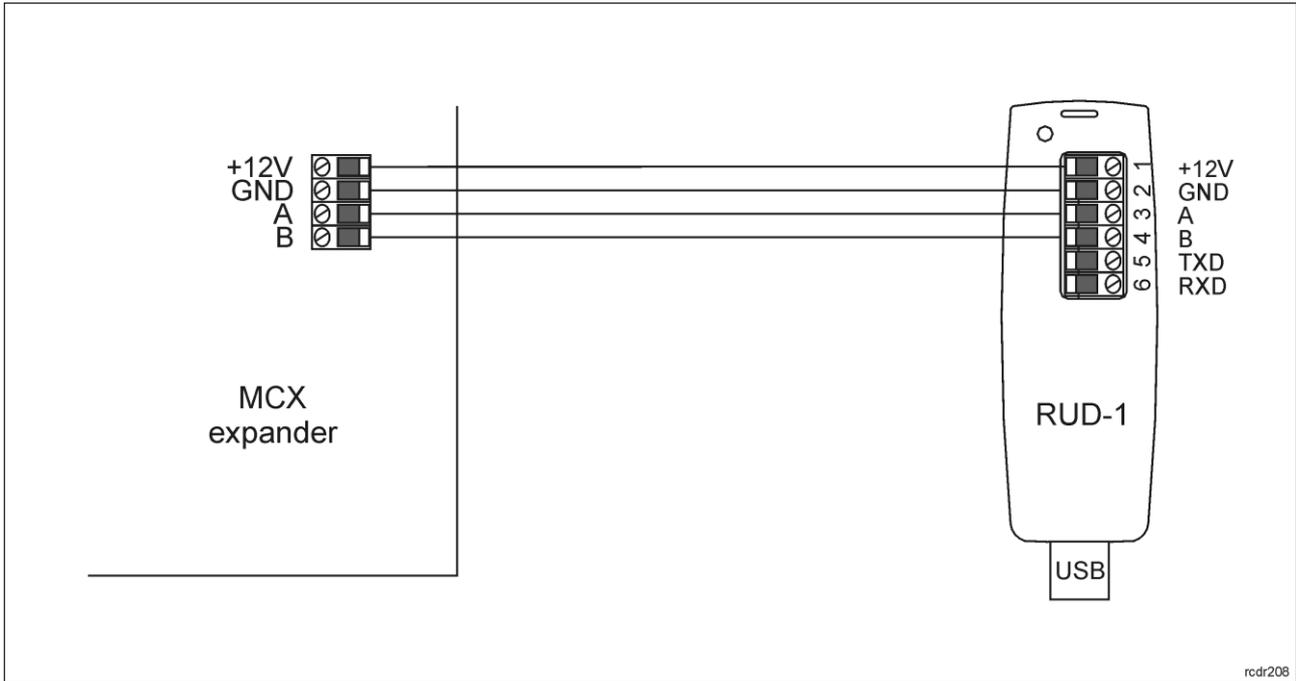

Fig. 6 Connection to RUD-1 interface
1. Connect the device to RUD-1 interface (fig. 6) and connect the RUD-1 to computer's USB port.